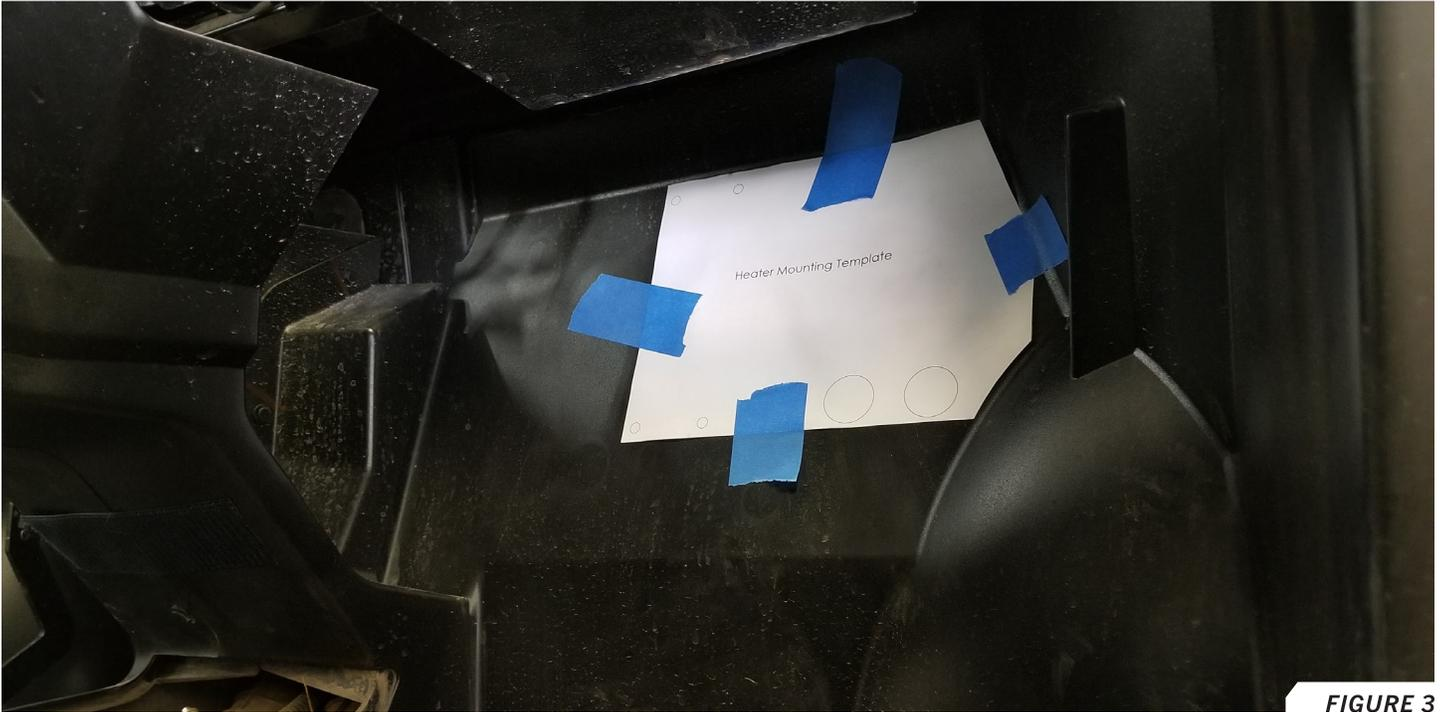

FIGURE 3
9. Cut out the templates found in the back of this instruction manual. Position the templates as shown in **FIGURES 3, 4, 5** and tape them into place.
12. Place the two 1" rubber grommets into the 1¼" holes drilled through template #1. *FIGURE 3*